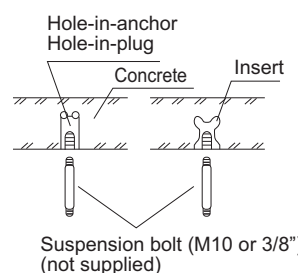

**Fig. 1-37**
- (2) If the full-scale installation diagram is bent at right angle to the ceiling and wall, the locations of the inlet for indoor tubing and wiring are chosen and the locations of each suspension bolt can also be chosen. Take a pencil and mark the drill holes (Fig. 1-37).